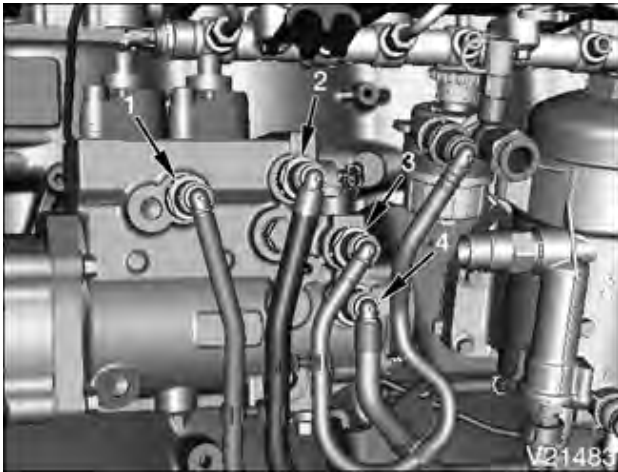

Figure 26. Low-pressure Fuel Lines
13. Connect four previously labeled low-pressure fuel lines with quick-connect fittings to HP fuel pump (Figure 26).